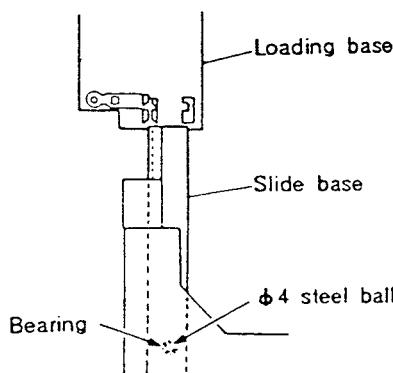

Fig. 9-7
2. While lifting the clamp holder [marked ⑤ in Fig. 9-2] with the right hand, hold the tray in the left hand as indicated by ⑥ and slide the slide base into the hard resin fittings on the loading base as shown in Fig. 9-7 to re-insert the disc tray. At this time, be sure to hold the steel ball in place with the index finger of the left hand. Also, be careful that the front panel is not damaged by the slide base and bearing of the steel ball's bearing (in the slide base) coming into contact with the panel.